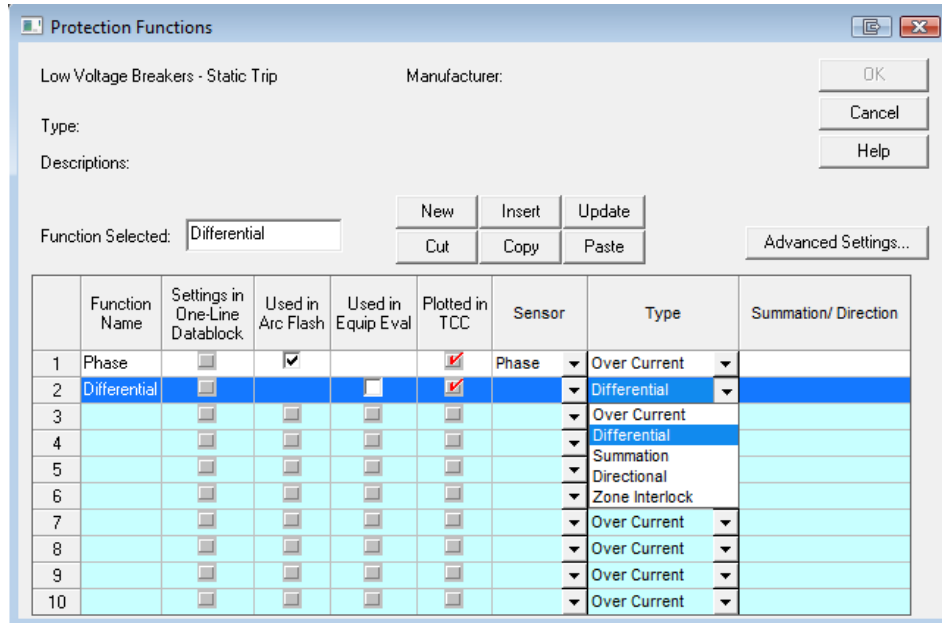

Figure 5
- Click the New button and type in Differential under the Function Name column. Select Differential from the Type pull-down menu (Figure 5).